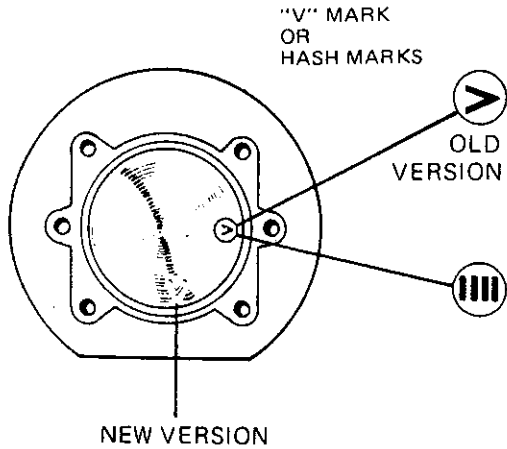

Figure 22
- (1) Offset pistons can be identified by "V" mark or hash marks as shown in Figure 22. Unmarked pistons are not offset and can be installed either way.
- (2) Incorrect installation of offset piston can cause a disturbing engine knock.